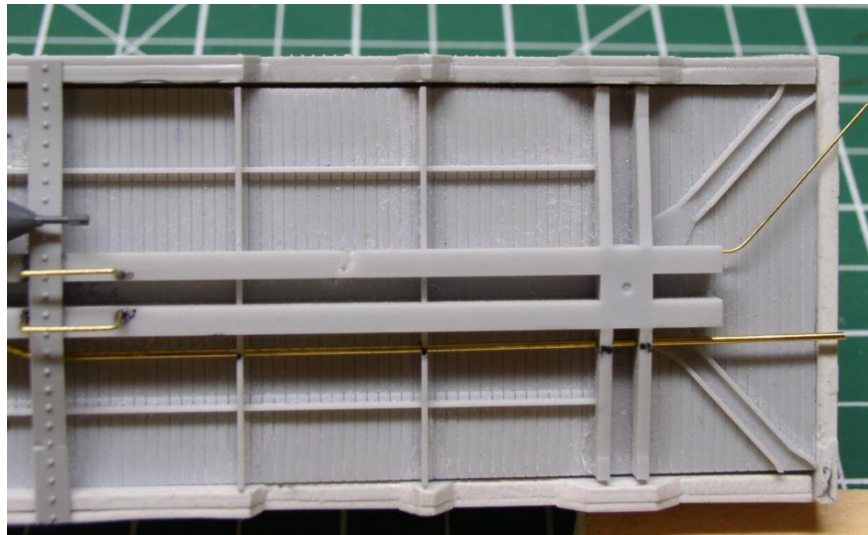

Figure BD7
- Test fit the underframe to the body. You may have to trim about 1/32" off each end to fit. Tack glue it in place using dots of ACC. You will want to remove the underframe later. See Figure BD7 and BD7a.